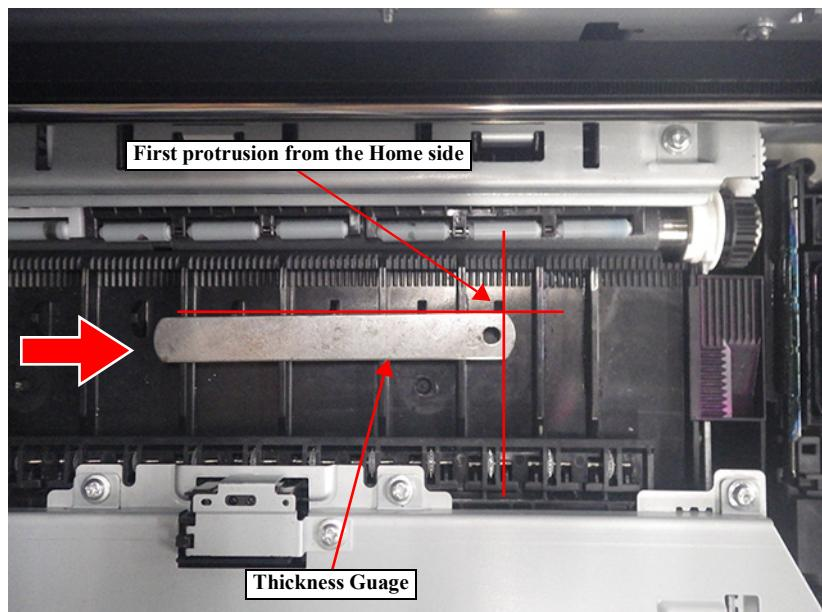

Figure 4-25. PG adjustment (2)
11. Set the thickness gauge in the position you set in referring Step 8 to Figure 4-25, and then pull the CR Belt to move the CR Unit over the thickness gauge slowly.